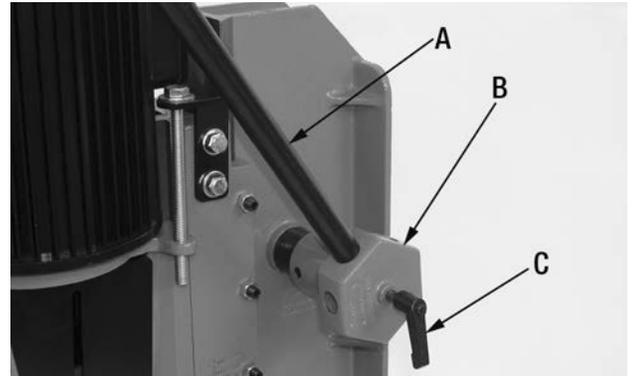

FIGURE 3
1. Install the downfeed handle (A) Fig.3 to the handle hub (B) and secure handle by tightening the hub lock handle (C).